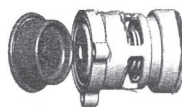

Figure 1
4. Remove the rubber diaphragm from the relief valve. Be aware of how the diaphragm is configured so that it can be reinstalled in the same manner. The hard rubber tab in the diaphragm fits into a similar socket in the head of the piston. (Figure 1)
2. Remove #1 Cam-check Assembly. **Do not use Cam Arm as a handle to unscrew Cam-Check.** Insert lid bolts in 1st check seat ring (see fig. 1), insert a long screwdriver or pry bar between lid bolts. Gently apply pressure against the bolts and turn seat assembly counter clockwise moving bolts hole to hole to maintain turning leverage (two additional bolts will eliminate need to move lid bolts from hole to hole). Finish unscrewing by hand and remove through top access port. Unscrew #2 Cam-Check (turn counter-clock wise) by placing a long screwdriver across lid bolts inserted in holes located in the 2nd check seat ring, similar in method used to remove 1st check and applying pressure to loosen #2 Cam-Check. Finish unscrewing by hand.